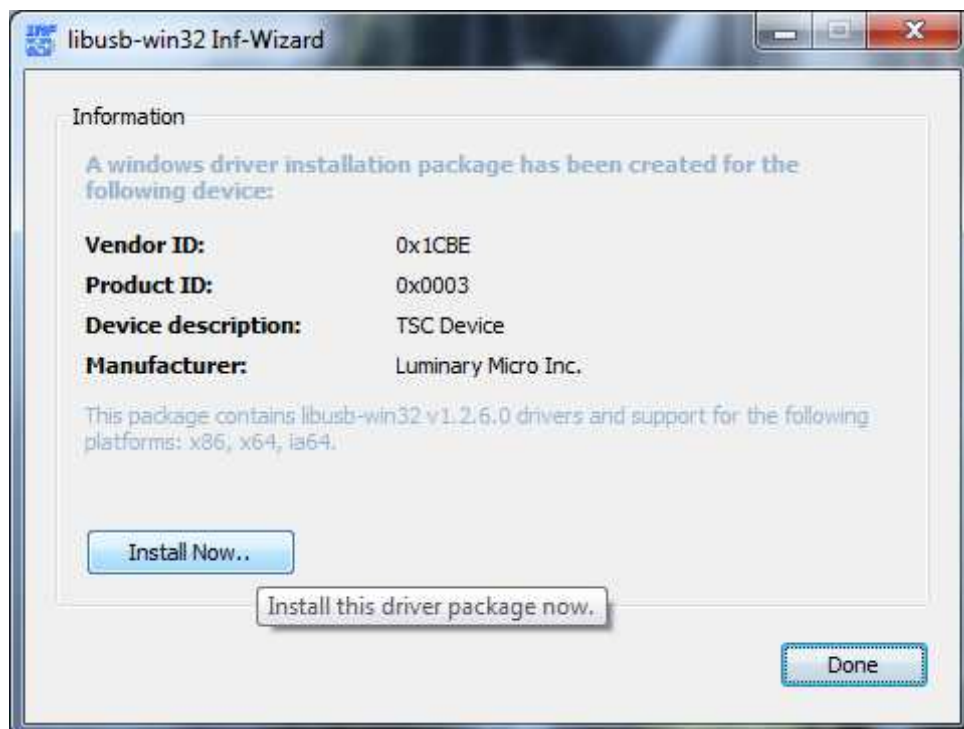

Figure 10. Inf-Wizard Installation Prompt
- (i) Click **Install Now...**, as shown in Figure 10. After installation, unplug the device, and then plug it back in.